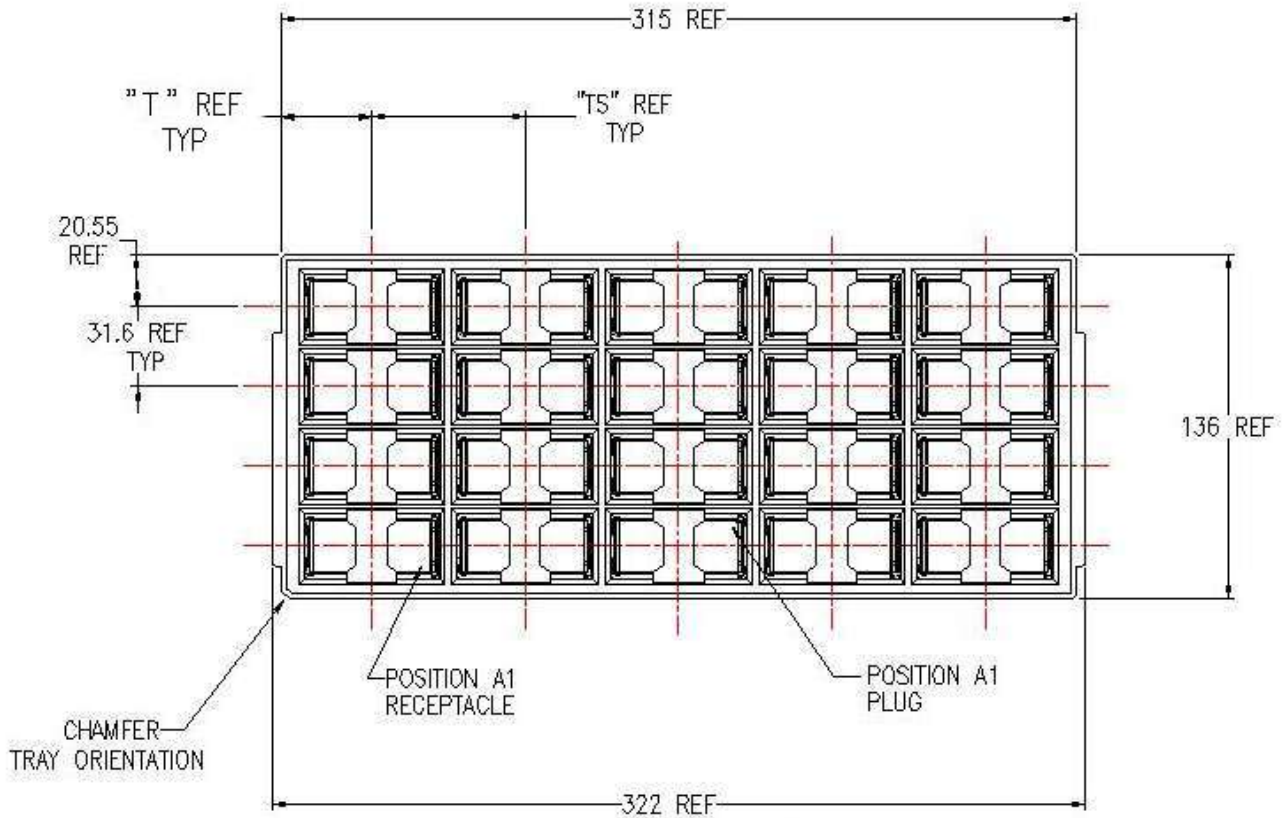

Figure 8: Packaging Tray Configuration (296 Pos Shown)
- Connectors are packaged and shipped in molded JEDEC style plastic trays, as shown in figure 8 and table 3. Trays have visual indicators and keying features to assure that the connectors are always oriented as shown. For additional packaging information, see FCI packaging specification GS-14-777.